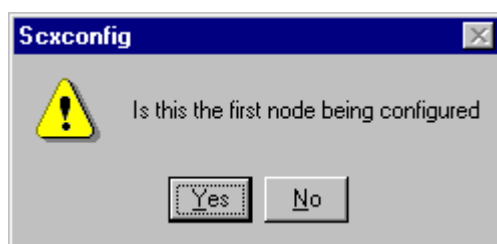
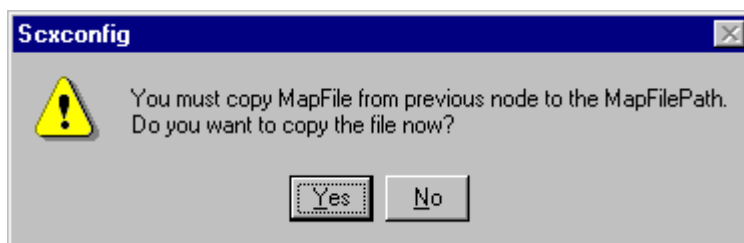

Figure 42. Scxconfig Window
Figure 43. Copy MapFile Window
Otherwise, *Figure 42*. *Scxconfig Window* asks the user if this is the first node being installed. Since this is not the first node being installed, click on **No**.
6. When **No** is selected in *Figure 42*, the dialog box shown in *Figure 43*. *Copy MapFile Window* is displayed. If you wish to copy the MapFile now, click **Yes** to continue.